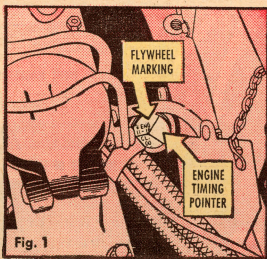

Fig. 1
1. He takes out the engine-inspection plug so he can see the timing marks on the flywheel (Fig. 1).